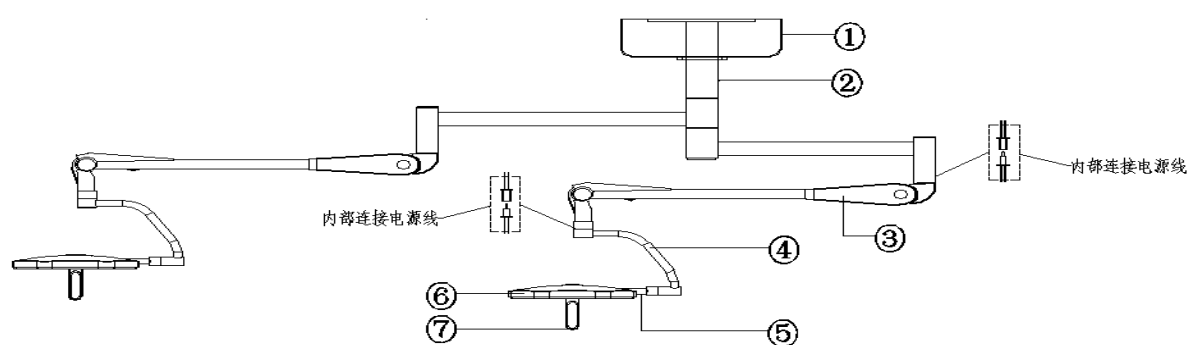

Figure 01
(1) Description of product structure (see Figure 01)